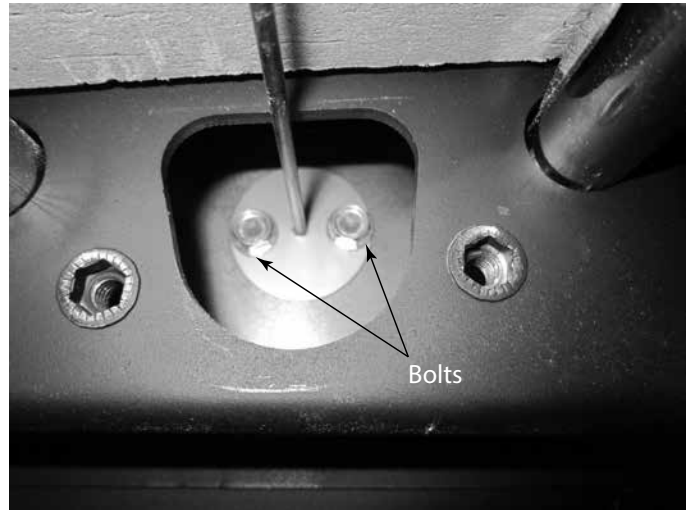

Figure 4.7 Remove Bolts (Access cover removed)
- Using a long 3/8" nut driver, remove the (2) bolts in through the hole holding the thermocouple on. See Figure 4.7.